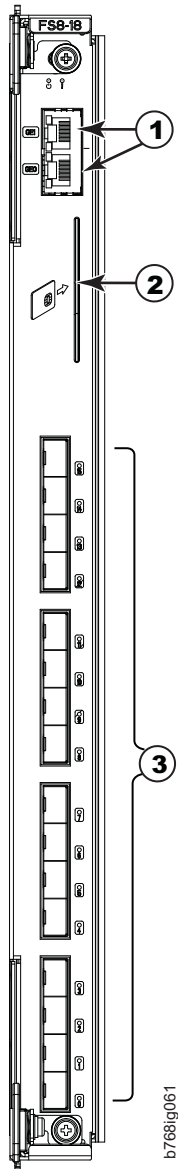

Figure 59. FS8-18 encryption blade
- Figure 59 on page 160 show an FS8-18 encryption blade